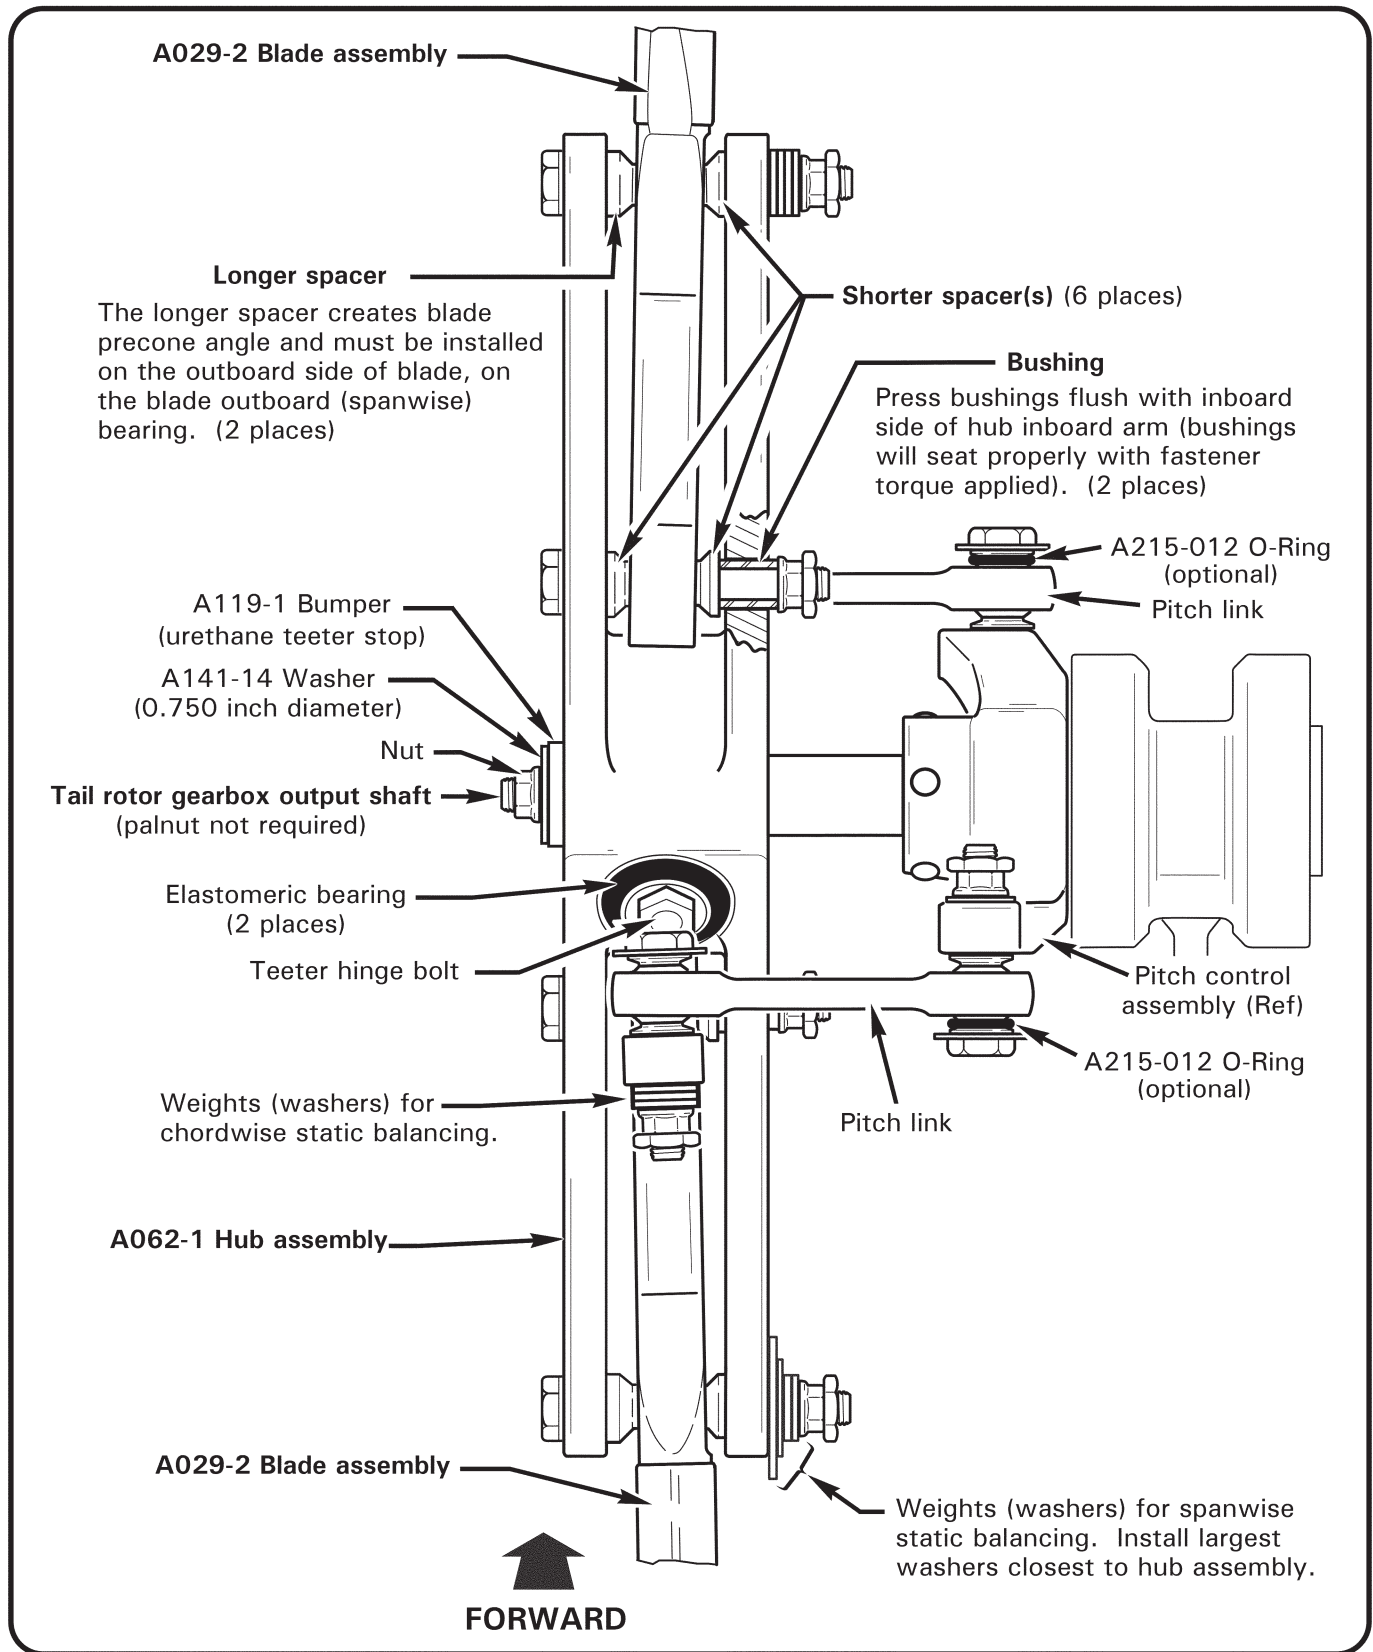

FIGURE 28-1 TAIL ROTOR ASSEMBLY INSTALLATION
1. Refer to Figure 28-1. Tag each pitch link with corresponding blade serial number. Disconnect pitch links from tail rotor blades; keep associated hardware with each link.
1. Refer to Figure 28-1. Position tail rotor assembly on tail rotor gearbox output shaft, matching tail rotor blades to corresponding pitch links. Verify tail rotor is installed for counter-clockwise rotation when viewed from left side of aircraft.
2. Refer to Figure 28-1. Remove hardware securing A029-2 blade assemblies to A062-1 hub assembly. Remove blades, spacers, and hardware; do not remove A138-1 bushings unless required.
1. Refer to Figure 28-1. If removed, apply light coat of approved primer per § 23-75 to outer surface of A138-1 bushings; while primer is wet, press bushings flush with inboard side of hub inboard arm (bushings will seat properly with fastener torque applied).